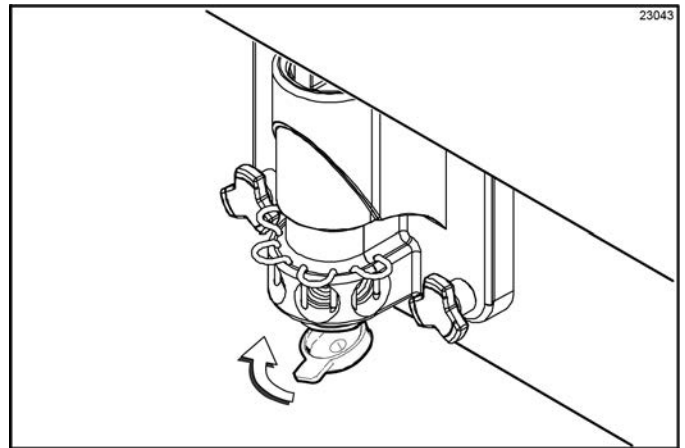

Figure 6-77
- Install the restrictor cap on the freezer door spout. (See Figure 6-77.)